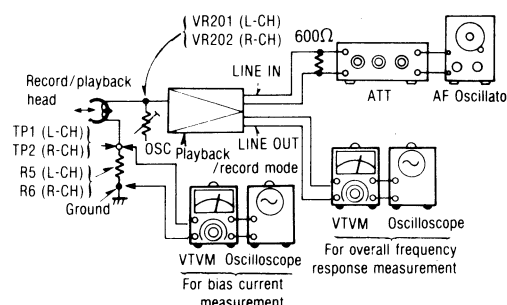

Fig. 13
- Make connections as shown in fig. 13.